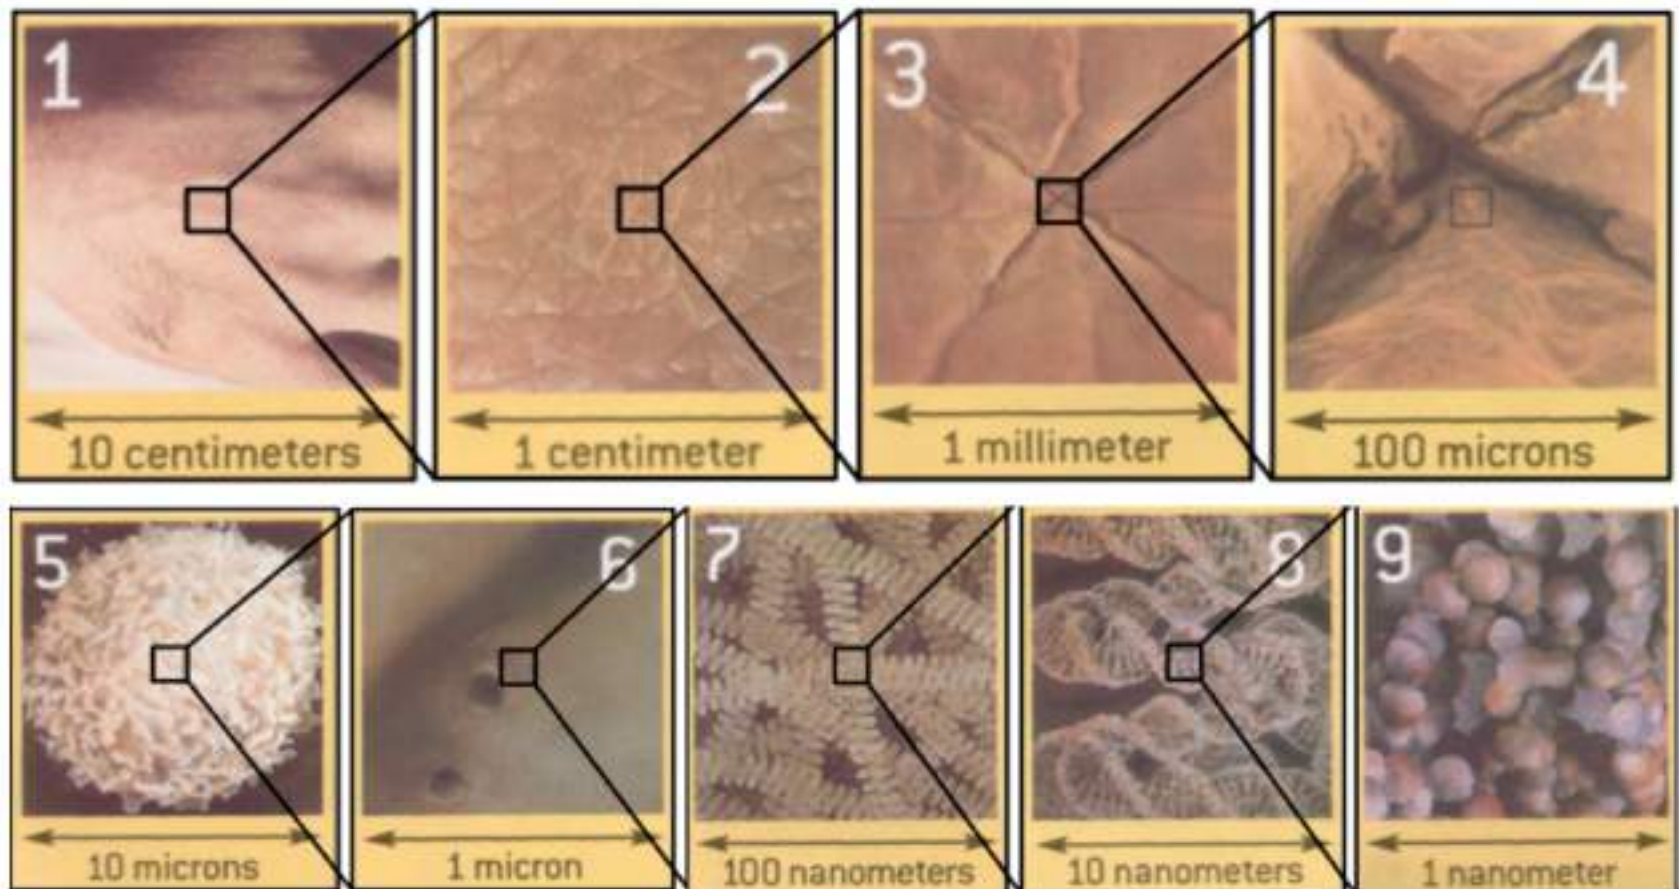

Fig. 3: The scale of skin to DNA molecule
- The scale of a human hand skin to it's DNA molecule are shown in Fig. 3 with the scale of 10cm to 1nm.